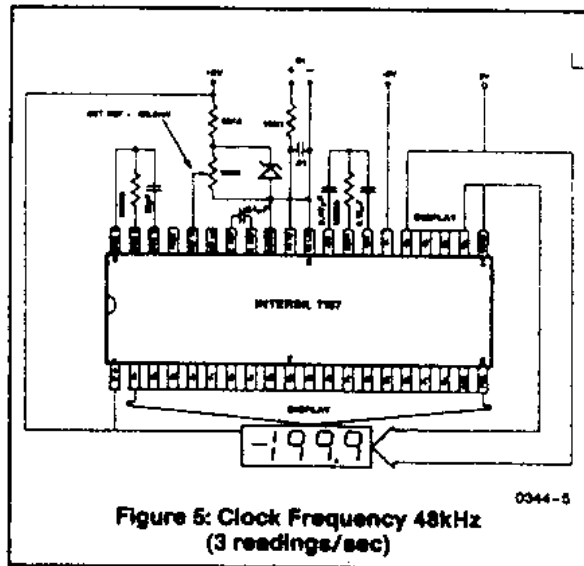

Figure 5: Clock Frequency 48kHz
5. 48kHz oscillator, Figure 5, increases current by 35 $\mu\text{A}$  (typ).